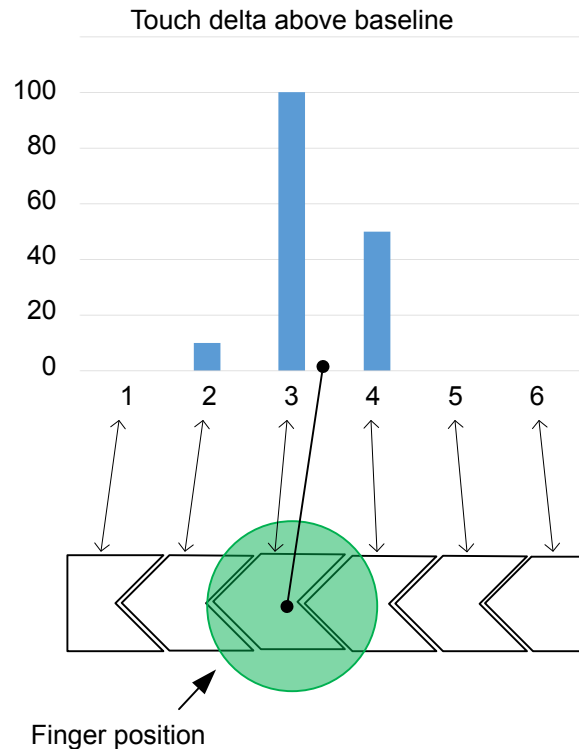

Figure 6.1. Slider Centroid Calculation and Processing Example
The slider algorithm is used to interpolate a conductive object's position among one or more sensors laid out in an array, with one sensor directly against a successive sensor. The algorithm assigns a bin value to each sensor of which the slider is composed. For every slider sensor with a touch delta above that sensor's baseline value, that delta is multiplied by the sensor's corresponding bin value, and that value is accumulated with all other delta x bin values. That resulting summation is then divided by the sum of all touch deltas. The resulting value is a weighted average, centroid output with values bound by the highest and lowest bin values. Figure 6.1 Slider Centroid Calculation and Processing Example on page 17 shows an example centroid calculation.
- The bin values for each sensor, as shown in Figure 6.1 Slider Centroid Calculation and Processing Example on page 17.